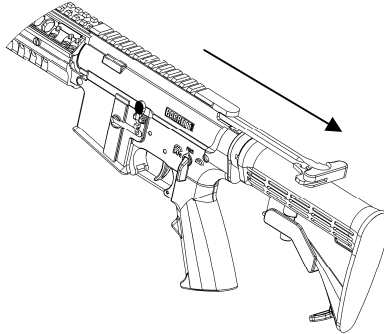
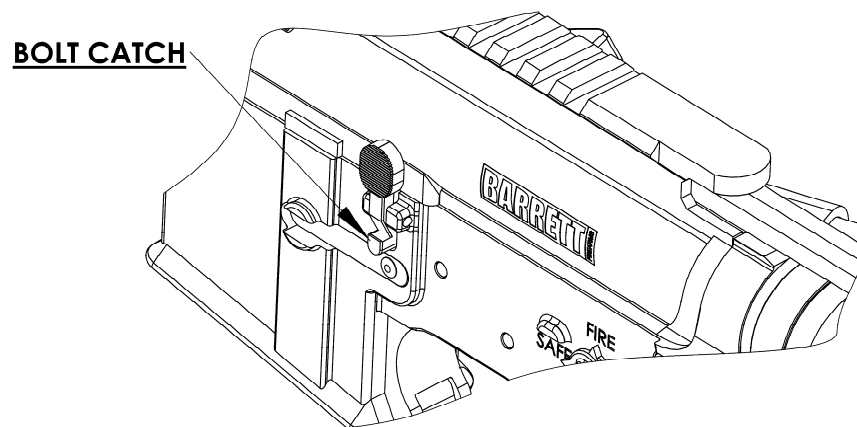
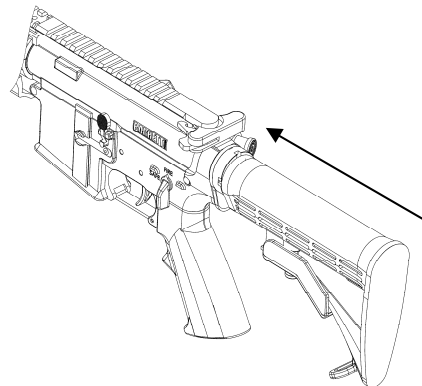

Figure 9
Figure 10
Figure 11
3. To lock the bolt open, pull the charging handle and hold it rearward. (Figure 9). While holding the charging handle rearward, depress the bottom of the bolt catch. (Figure 10). Push the charging handle forward until it latches. (Figure 11).